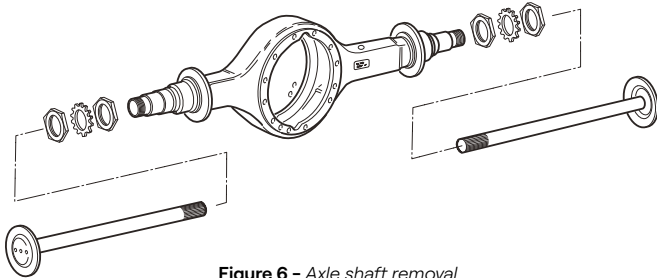

Figure 6 - Axle shaft removal
3. Remove the axle shaft by sliding it out from the center of the hub (**Figure 6**).